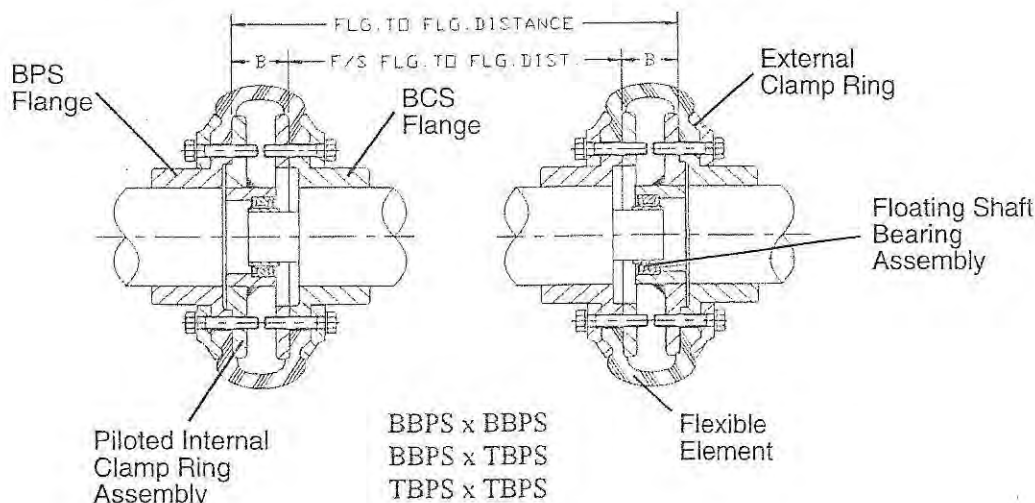

Figure 7
3. Referring to Figure 7 and Table 1, observe the "B" dimension for the coupling size being installed. Mount and position the flanges on the shafts so that dimension "B" is achieved when the shafts are in their final position. Where flanges contain set screws, tighten to values listed in Table 2.
4. Remove any anti-rust lubricants or oil from the grooved side of the clamp rings. Assemble internal and external clamp rings to floating shaft flanges and snug up clamp ring screws. Slip internal piloted clamp rings onto the turned down portion of floating shaft. Hub projection on clamp ring should be toward floating shaft as shown in Figure 7.